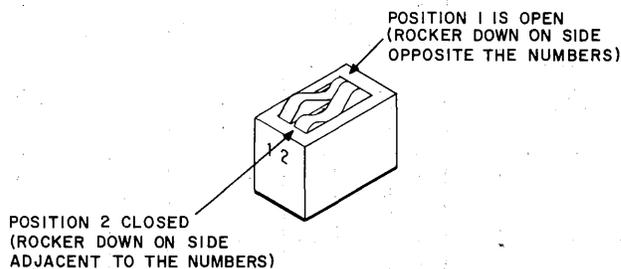
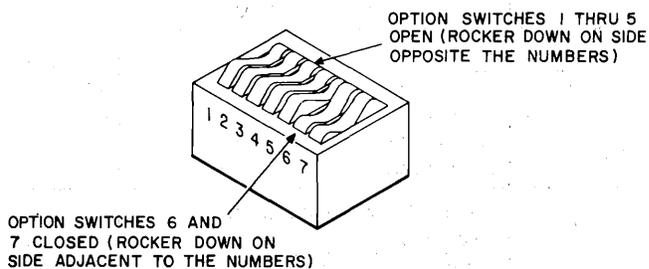

Fig. 2—Option Switch S2
Fig. 3—Option Switch S3
3.04 Data set options are determined by the switch settings S1 (on data mounting), S2 (Fig. 2) and S3 (Fig. 3) on DS 113D-L1. A description of the options shown in Table A follows.